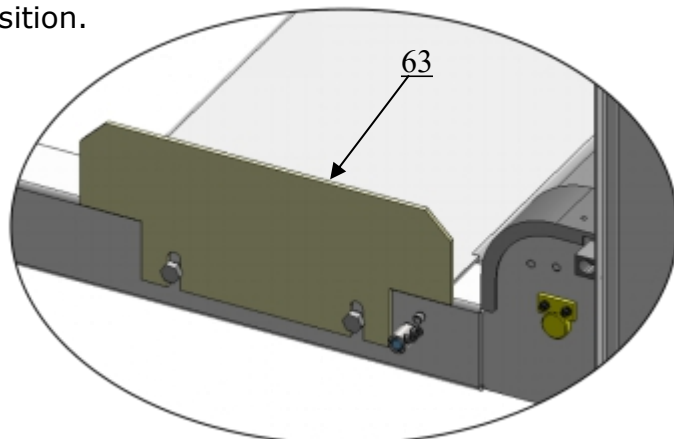

Fig. 33
O. Install Rear wheel stop plates (See Fig. 33)